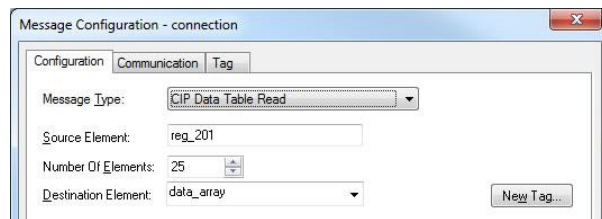

Figure 44: MSG Instruction Configuration
- b) Click the message configuration button (“...”) in the MSG instruction. The “Message Configuration” window will open. Refer to Figure 44.